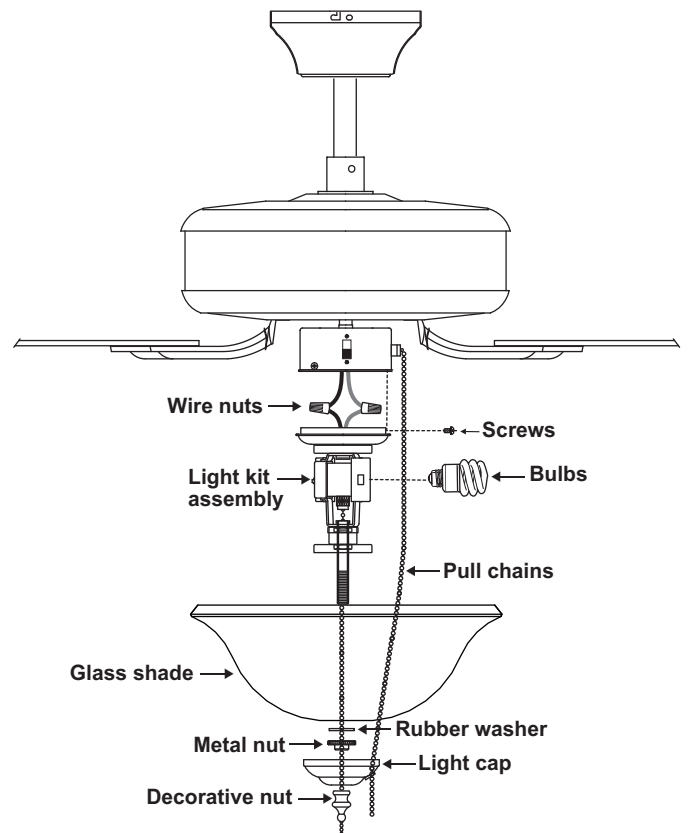

Figure 17
2. While holding the light kit under your fan, locate two single white and blue wires in the switch housing labeled "FOR LIGHT". Make the polarized plug connections: (Fig. 17)